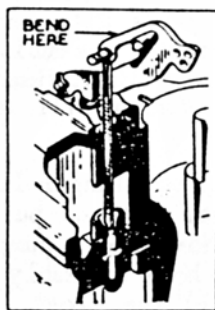

Figure 3
### VII. METERING ROD ADJUSTMENT. (See figures 3 and 4.)
Metering rods are operated manually on some carburetors (figure 3) and by vacuum on others (figure 4).
a. Manual Type. (See figure 3.) With throttle stop screw backed out and throttle valve seated in bore, insert metering rod gage supplied in the metering rod location so that tapered end of gage fits into the jet. The top of gage should just touch lower edge of metering rod pin on pump arm. Adjust by bending pump arm at location shown. Make sure the arm is not forced out of alignment. Remove gage and install metering rod.